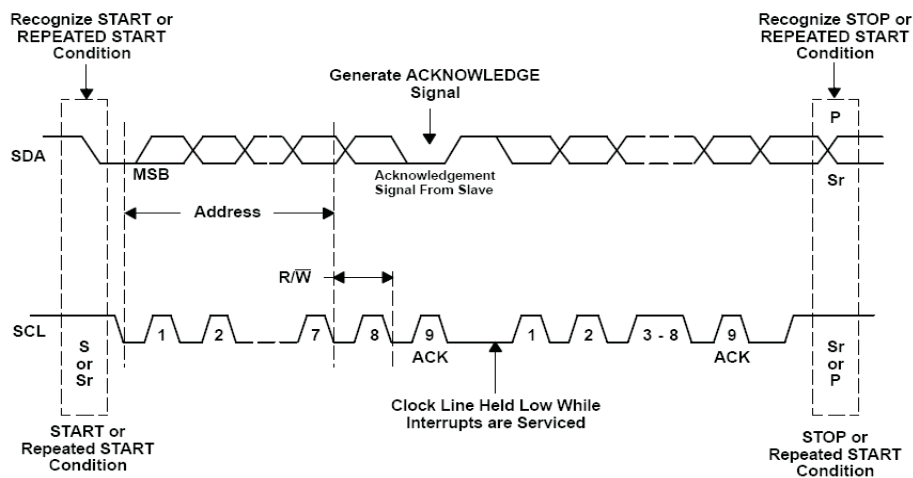

Figure 34. Bus Protocol
The master generates further SCL cycles to either transmit data to the slave (R/(W) bit = 0) or receive data from the slave (R/(W) bit = 1). In either case, the receiver needs to acknowledge the data sent by the transmitter. So an acknowledge signal can either be generated by the master or by the slave, depending on which one is the receiver. 9-bit valid data sequences consisting of 8-bit data and 1-bit acknowledge can continue as long as necessary. To terminate the data transfer, the master generates STOP condition by pulling the SDA line from low to high while the SCL line is high (see Figure 34). This releases the bus and stops the communication link with the addressed slave. All I2C compatible devices must recognize the stop condition. Upon the receipt of a stop condition, all devices know that the bus is released, and they wait for a start condition followed by a matching address.